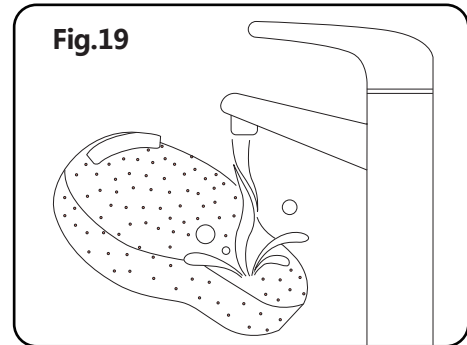

Fig.19
(6) As in fig.19, get the HEPA and wash it.